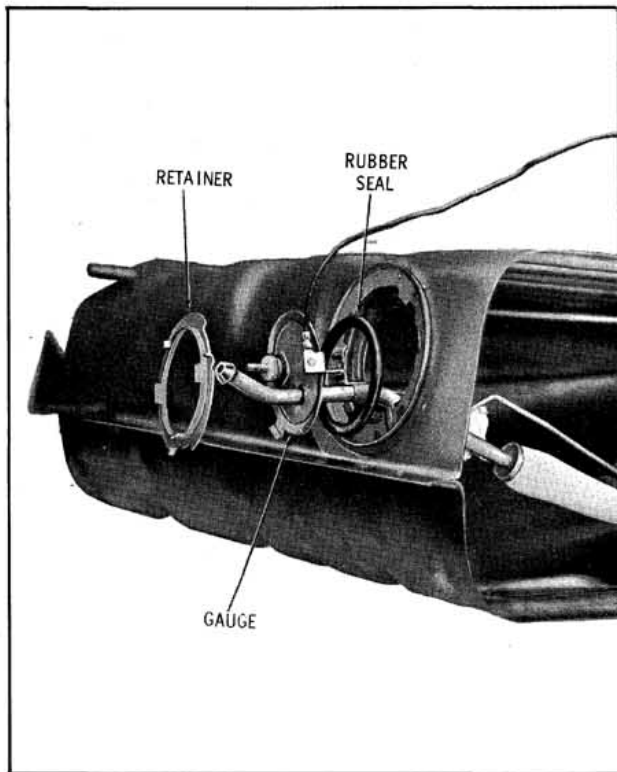

Fig. 3-132 Installing Fuel Gauge
1. Position fuel gauge in tank as shown in Fig. 3-132.